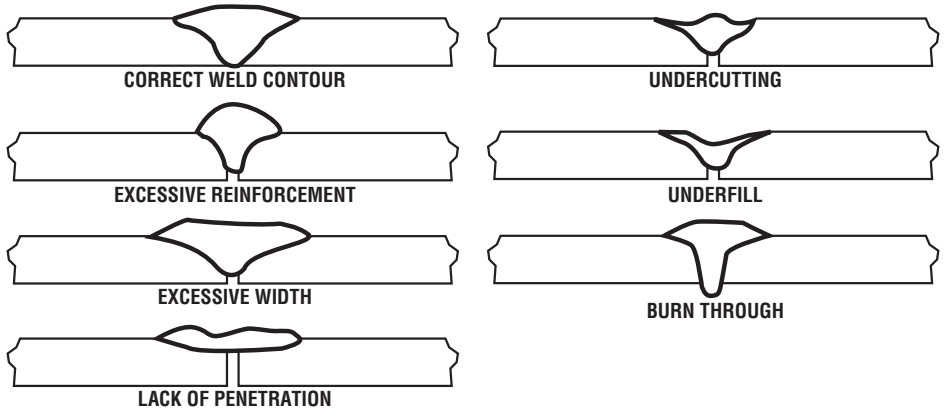

Figure 16: Characteristics of Good and Bad Welding Joints
- Since the angle of the nozzle flame is preheating the metals ahead of the weld, the last $1/2$ " (12.7mm) of the weld is critical. Increase the addition of the filler rod to ensure a full smooth weld. Refer to Figure 16 for the visual characteristics of a good and bad weld joint.